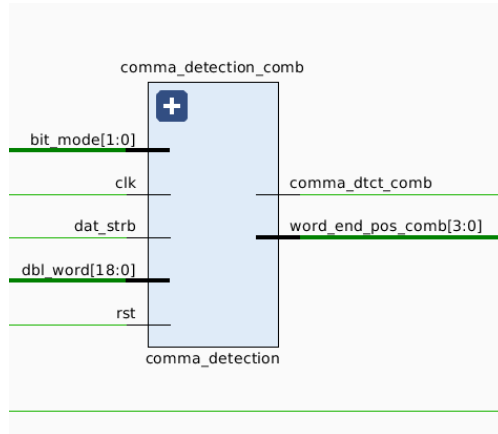

Figure 3: Structure of comma detection submodule
This submodule performs asynchronous comma detection in the 19-bit shift register, fed from the deserializer. It outputs (1) comma detection flag if the comma is detected and (2) the detected word's LSB index in the shift register. The schematic view of this submodule provided in Fig. 3.